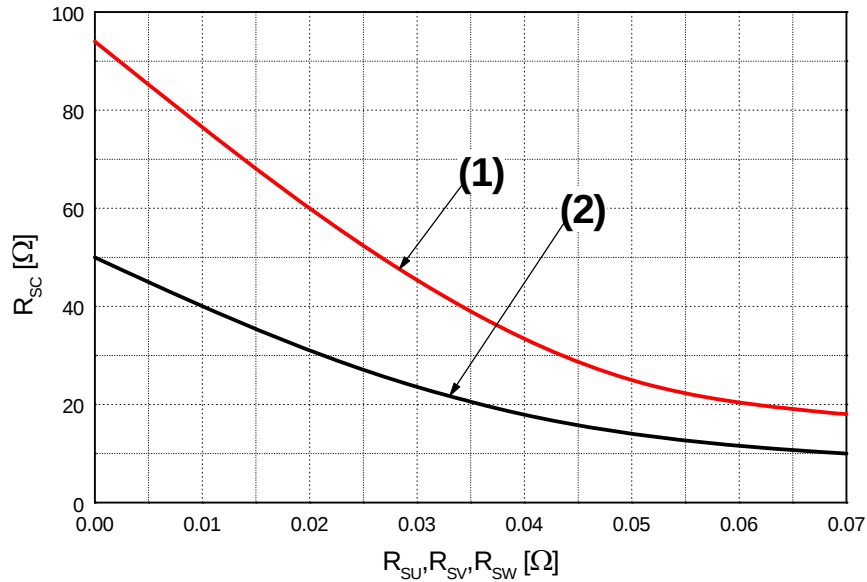

Figure 6. R_{sc} Variation by Change of Shunt Resistors (R_{SU} , R_{SV} , R_{SW}) for Short-Circuit Protection
- Short-circuit protection is functioning only at the low-sides. It would be recommended that the value of the external sensing resistor (R_{SC}) should be selected around 50 Ω in order to make the SC trip-level of about 30A, at the shunt resistors (R_{SU}, R_{SV}, R_{SW}) of 0 Ω. For the detailed information about the relationship between the external sensing resistor (R_{SC}) and the shunt resistors (R_{SU}, R_{SV}, R_{SW}), please see Figure 6.